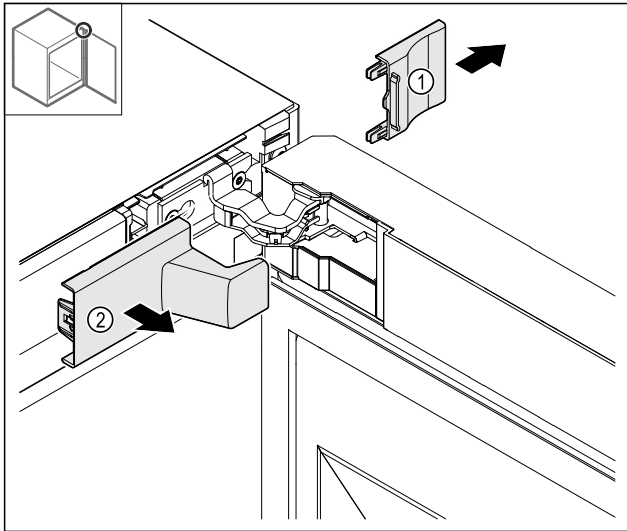

Fig. 14
- Remove the cover Fig. 14 (1) and then Fig. 14 (2).